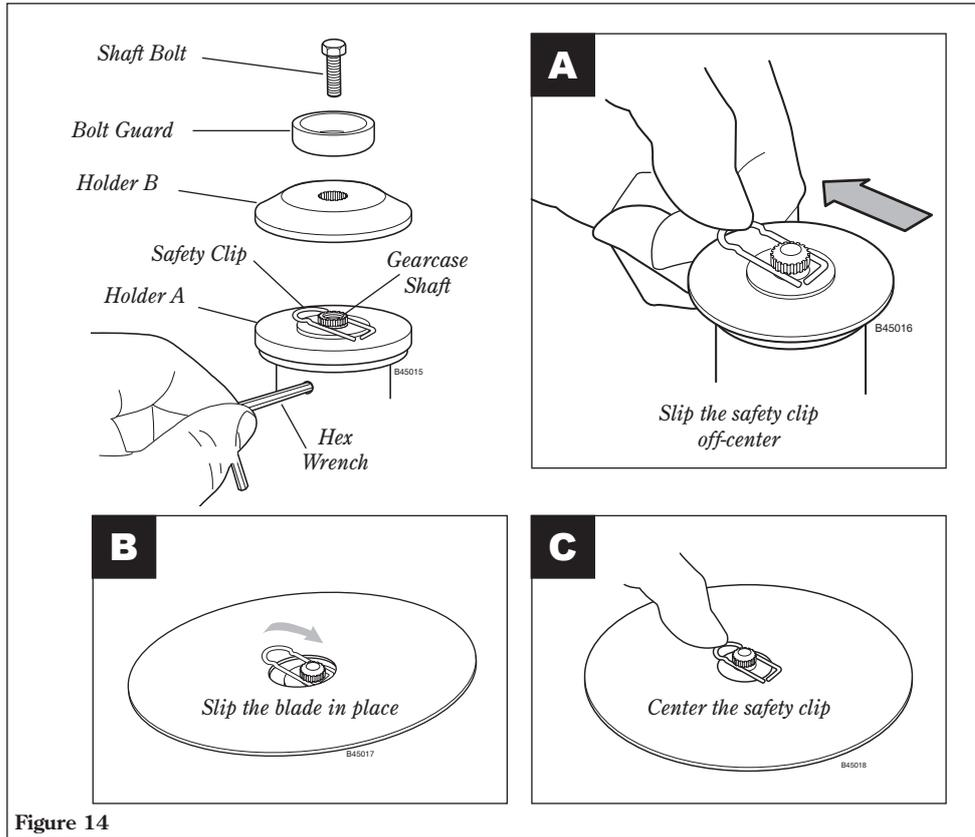

Figure 14
1. With the gearcase output shaft facing up, rotate the gearshaft and holder A until the hole in holder A aligns with the matching hole in the gearcase flange, and then lock the holder to the gearcase by inserting the long end of the hex wrench through both holes. See Figure 14.
2. Remove the shaft bolt, bolt guard and holder B. See Figure 14.